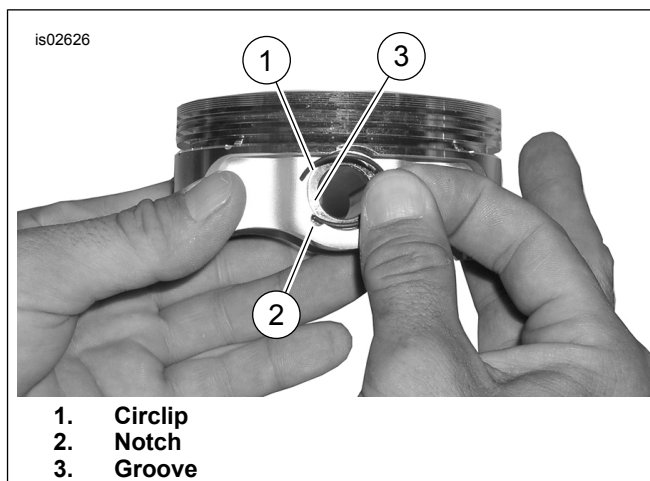

Figure 1. Circlip and Piston
- See Figure 1. Insert the open end of the circlip (1) into the notch (3) on the groove (2) around the piston pin boss so that the gap is at the 12:00 or 6:00 position when installed.